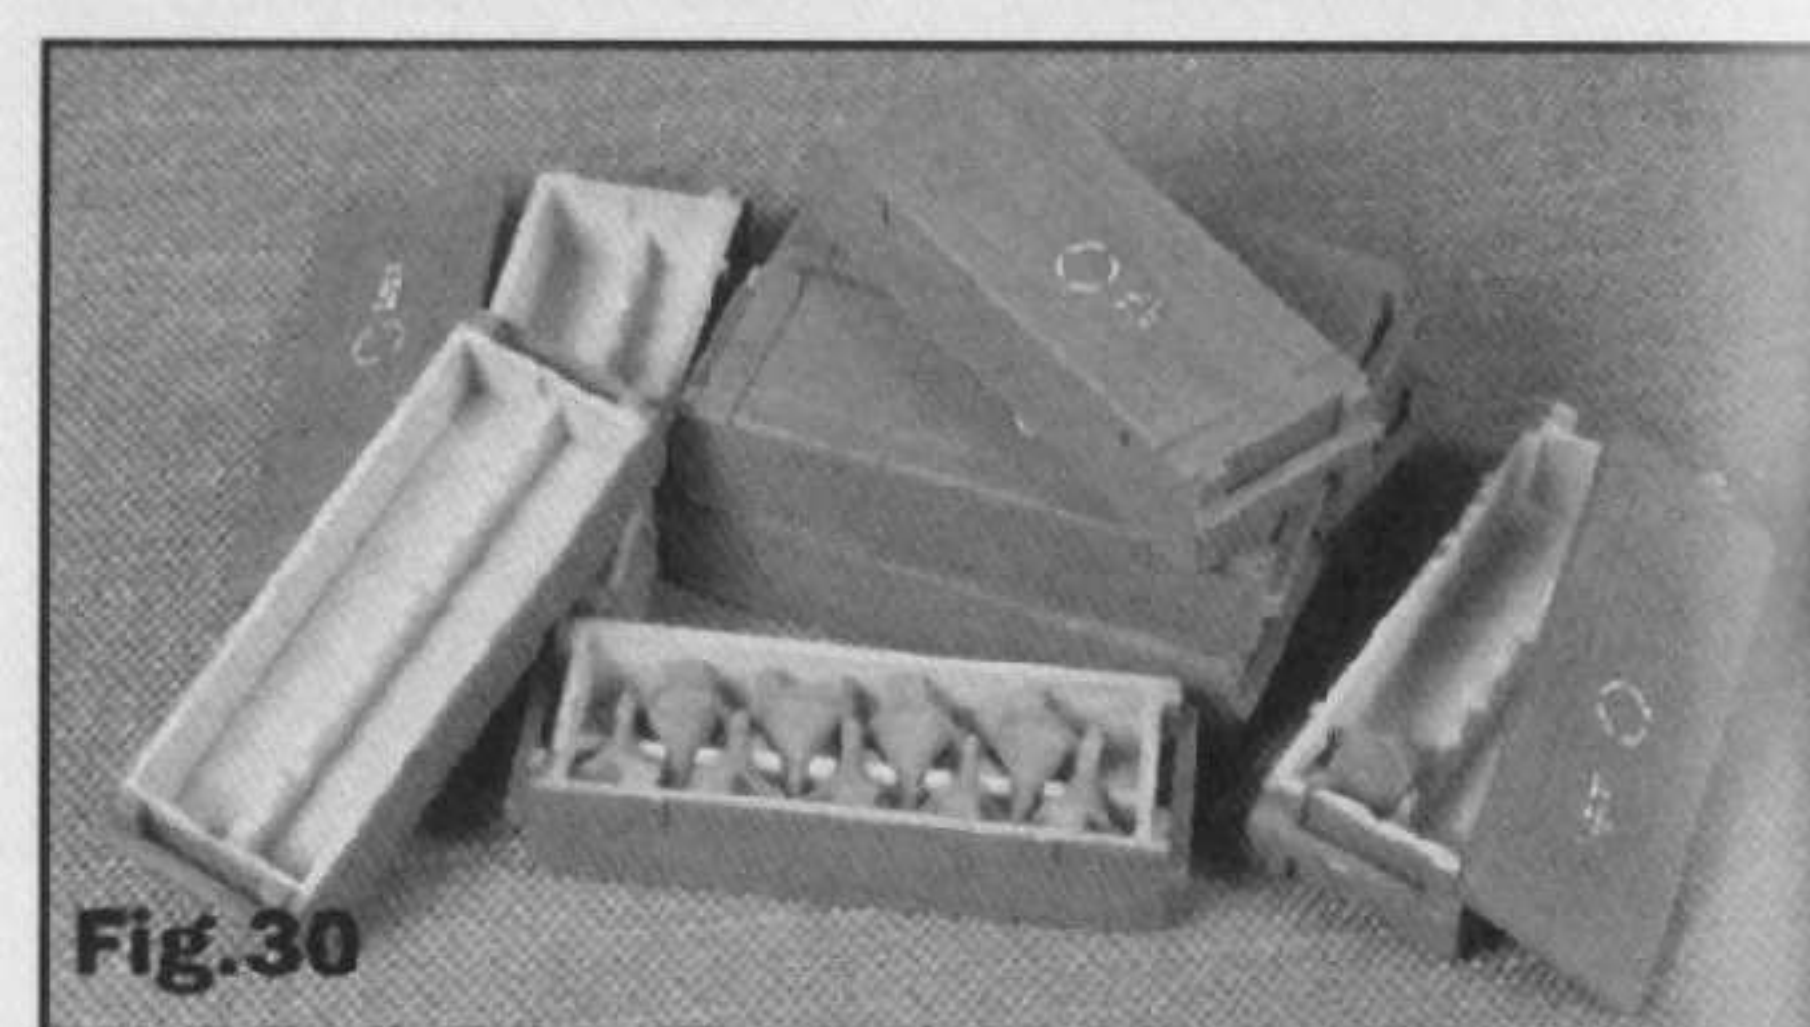

Fig. 30
Waterpump (fig. 34), a nicely executed plaster and resin piece; 35.047F, **Panzerjäger Troops/Holland 1944 (2)** (fig. 33), two interesting looking resin dudes; 35.043Z, **Panzerknacker Boxes** (fig. 30); 35.044Z, **Panzerfaust Boxes** (fig. 31); and 35.045Z **German Munition Boxes** (fig. 32). It's about time somebody thought of these!